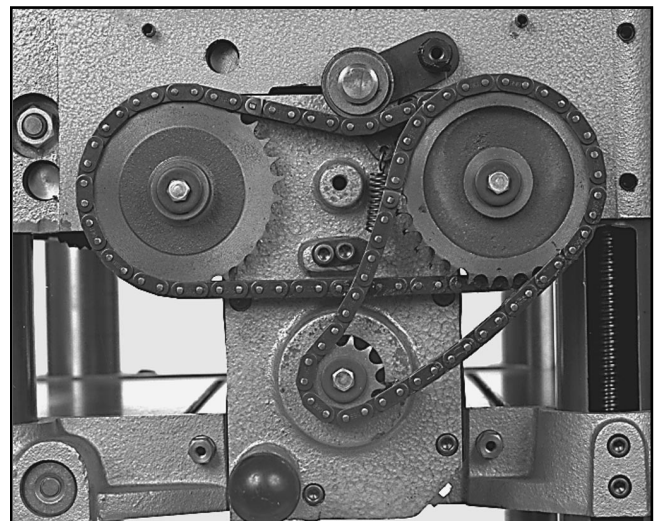

Figure 33. Location of sprocket bolts.
2. Check the bolts holding the sprockets in place. Inspect the drive chains to ensure that the retaining clips are in place. Replace the clips if necessary. **See Figure 33.**